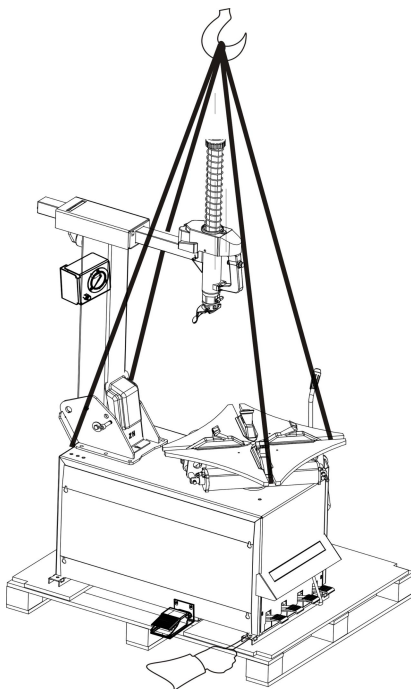

Fig. 10
- Take off two pieces of screws by spanner (Fig. 10). Use hoist to lift the machine, move pallet, locate the machine.